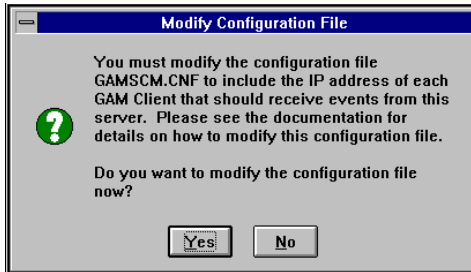

Figure 3-4. Modify Configuration File Message Box
7. After files are copied, the Modify Configuration File message box appears (Figure 3-4).